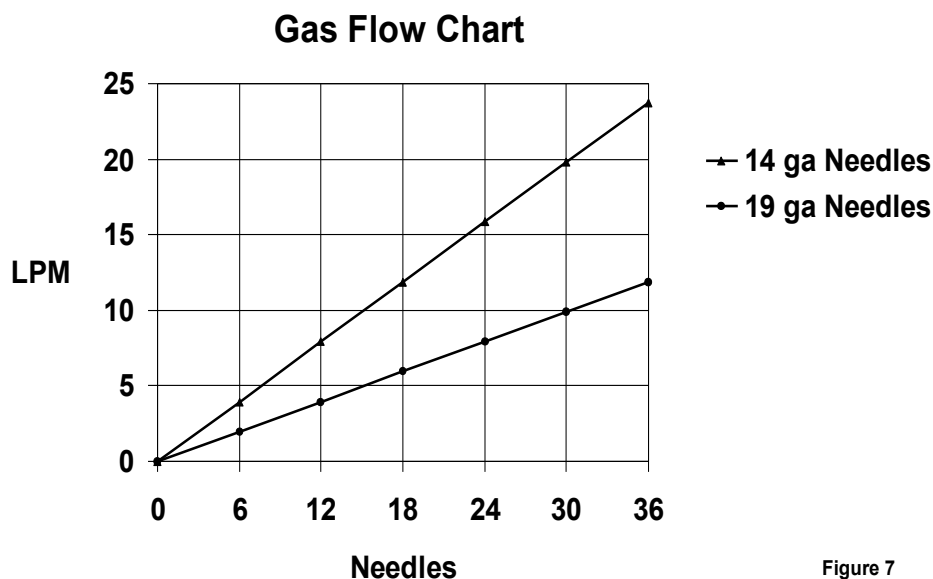

Figure 7
7. Adjust the flow meter needle to the correct flow rate for the number of positions being used. Please reference Figure 7.